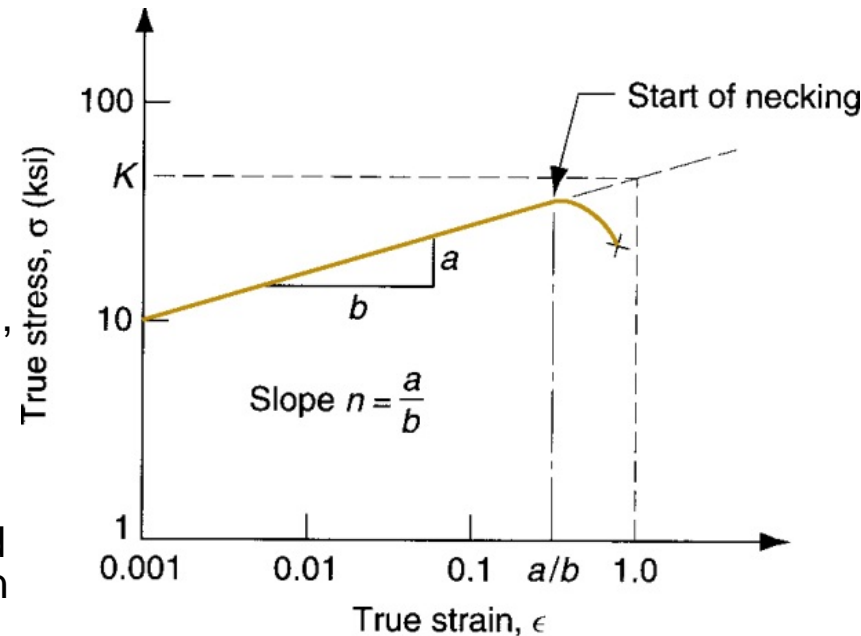

Fig. 10: true stress-strain curve plotted on a log-log scale.
- With plotting the true stress and true strain of the plastic region on a log-log scale, the result would be a linear relationship as in fig. 10, and the relation between true stress and true strain would then be: